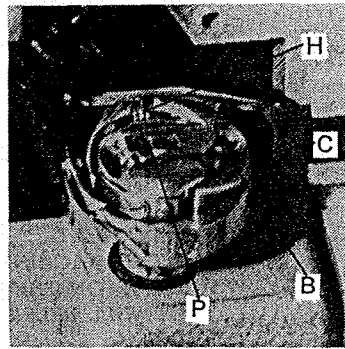

Fig. 6
3. LEAD THREAD END THROUGH GUIDE HOLDER (H) FIG. 6, LOCATED AT FRONT OF BOBBIN CASE ABOVE THE HINGED LATCH.
THE THREAD TAKE UP SPRING "K" (FIG. 6) SHOULD BE SET SO THAT WHEN THE EYE OF THE NEEDLE REACHES THE GOODS ON THE DOWNWARD STROKE OF THE NEEDLE BAR, THE SPRING WILL HAVE COMPLETED ITS ACTION AND WILL REST AGAINST THE STOP ON THE THREAD TAKE UP SPRING REGULATOR.
IF THE THREAD TAKE UP SPRING IS NOT SET AS OUTLINED ABOVE, LOOSEN SET SCREW "L" (FIG. 6) AND TURN TENSION STUD 'M' TO THE LEFT FOR REDUCED MOVEMENT OF THE SPRING OR TO THE RIGHT FOR MORE MOVEMENT. AFTER THE TAKE UP SPRING IS SET CORRECTLY TIGHTEN SET SCREW 'L'. REGULATION OF THE TENSION OF THE THREAD TAKE UP SPRING 'K' IS DONE BY TURNING THE TENSION STUD "M" TO THE RIGHT TO INCREASE TENSION OR TO THE LEFT TO DECREASE IT. THE TENSION OF THE SPRING SHOULD BE JUST ENOUGH TO TAKE UP THE SLACK OF THE NEEDLE THREAD UNTIL THE EYE OF THE NEEDLE REACHES THE MATERIAL ON ITS DOWNWARD MOVEMENT.